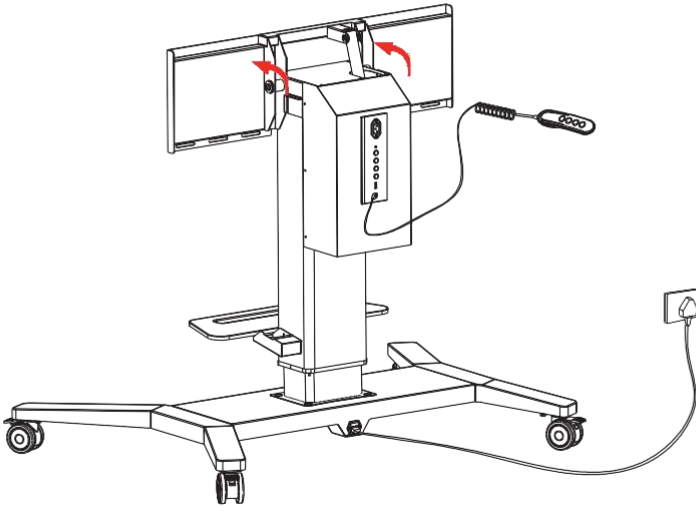

figure 6
Step6: Turn the Wall Mount C from horizontal to vertical. For details, refer to the Quick Start Guide.(figure 6).